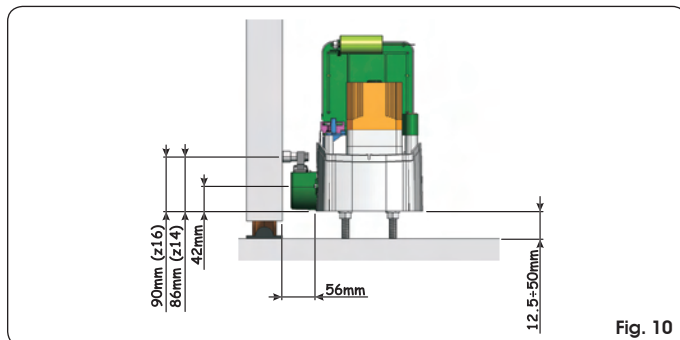

Fig. 10
- ③ Adjust the height of the gearmotor and the distance from the gate, referring to dimensions in Fig. 10.